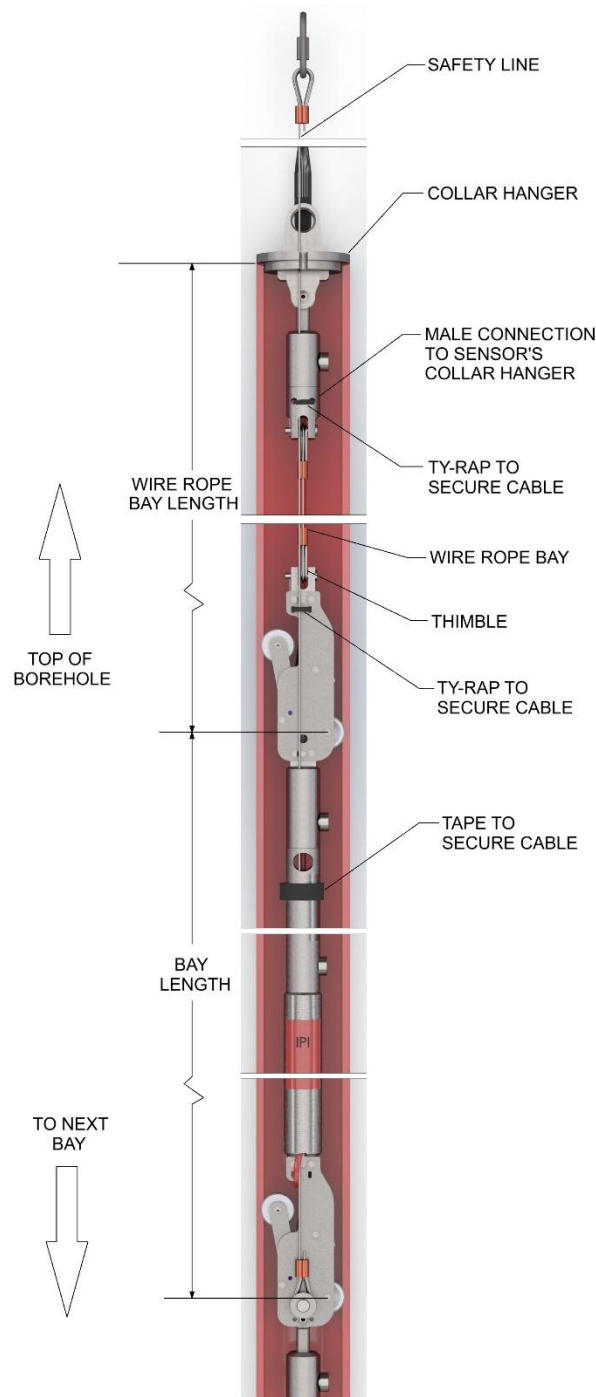

Figure 2: Installation of MEMS IPI
Please refer to Figure 2 and follow the instructions outlined below to correctly install a MEMS IPI.
9. Slowly lower the bay assembly into the inclinometer casing, taking care not to twist the wheels out of the grooves (see the figure below). Ensure that the signal cable and safety cable do not obstruct the wheels by securing the cables with Ty-rap and tape, as illustrated in Figure 2.